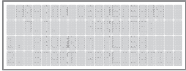

Figure 29.
11. A window will appear on the controller display (see Fig. 29);